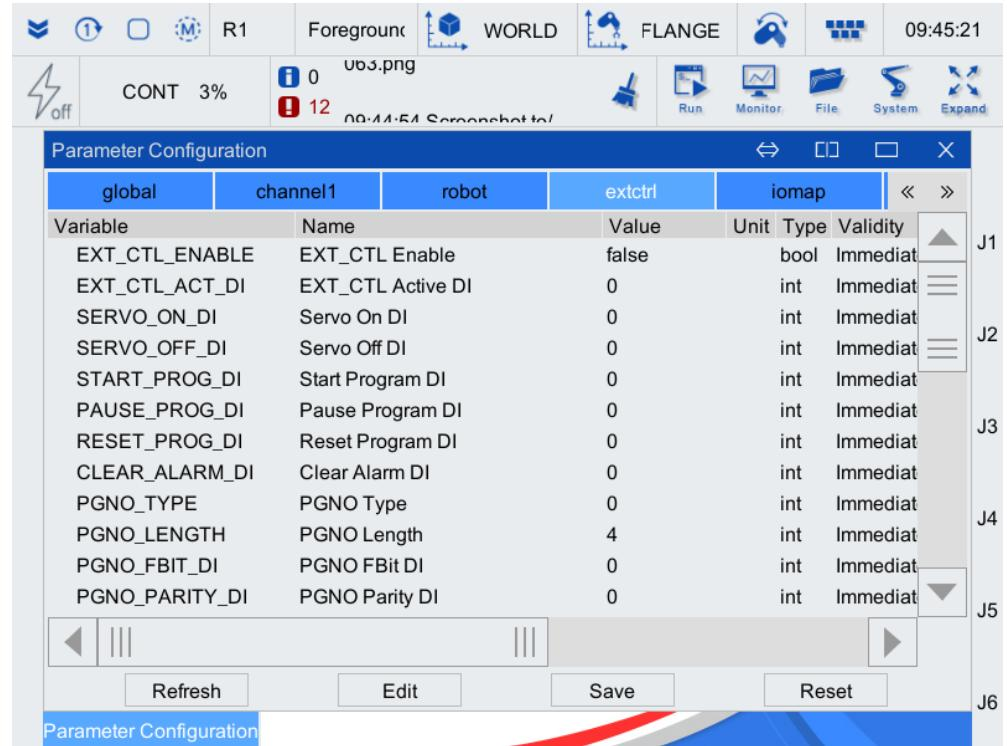

Figure 6-1 External control interface
Step1. Click on [System/Parameter Configuration] on the main interface of the teach pendant, and click on [Extctrl] in the pop-up interface. As shown in Figure 6-1.